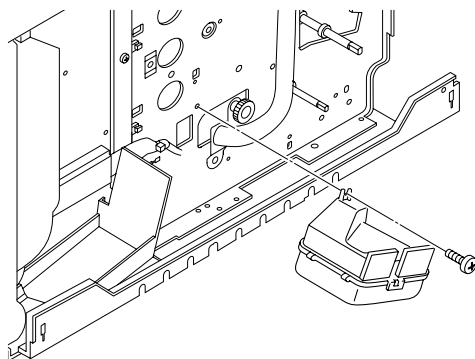

Fig.7-20
- 1) Remove the lower set screw ST3X6 (1 pc.) from the fan case assembly. (Fig.7-20)